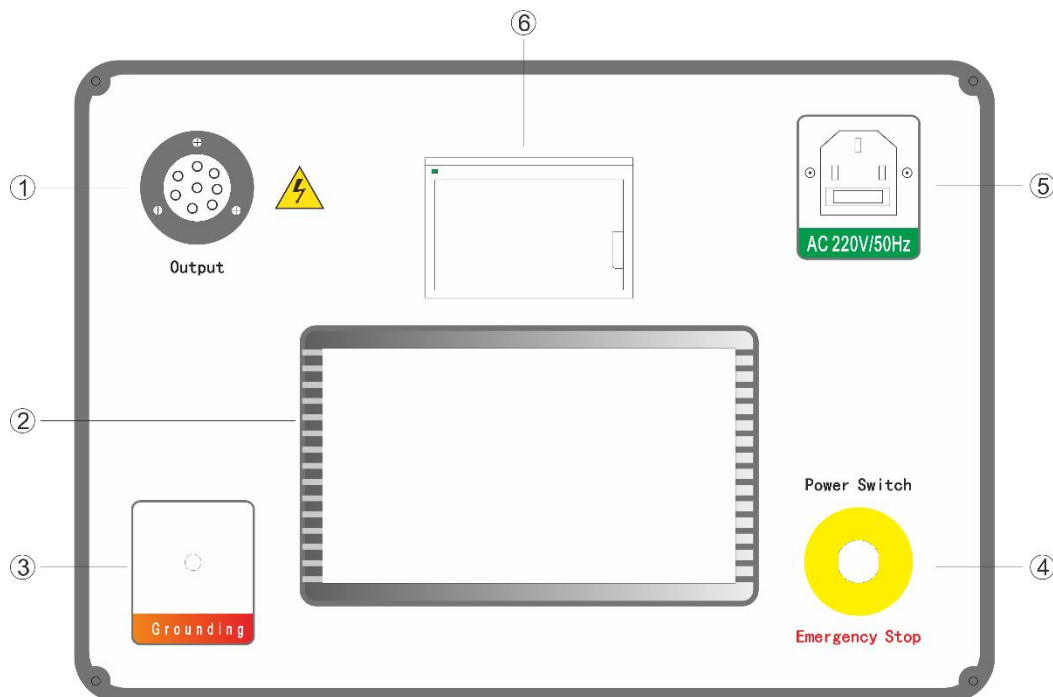

Figure 1 Schematic diagram of the controller panel
1.The layout of the components of the controller panel is shown in Figure 1, and the functions of each component are described as follows: